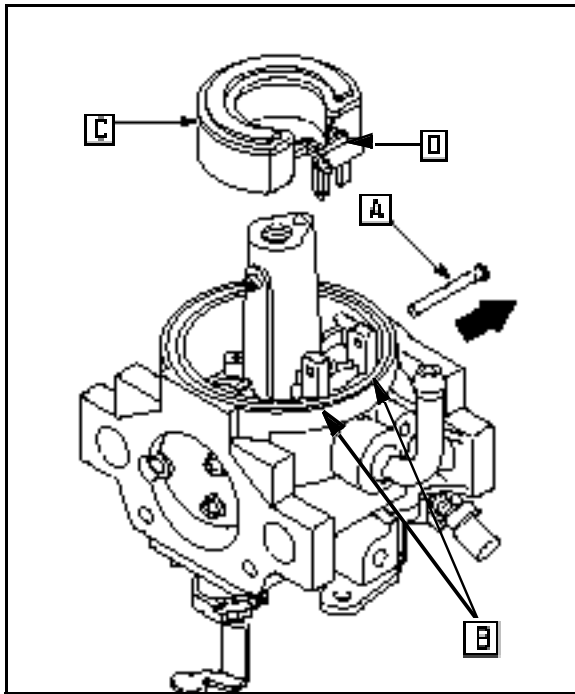

Fig. 53
3. Push float hinge pin (A) out of the hinge posts (B). Remove float (C) and needle assembly (D) Fig. 53).
4. The float hinge pin (A) Fig. 53) is a slip fit.